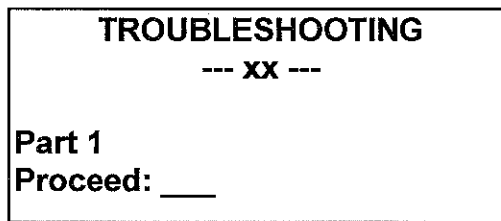

Figure 1
1. **READ!!!** Observe the display on the Nida 130E Test Console and ensure that it looks like the example shown in Figure 1. Verify that your contestant number replaces the [--- xx ---] shown in the example. The troubleshooting section is slightly different from the written test in that you are not allowed to recall or change a previously entered answer. You will, however, still be allowed to skip questions. Notice the word "Proceed" on the display. During the troubleshooting event, no malfunction (problem) is set until you answer "Y" to this question.